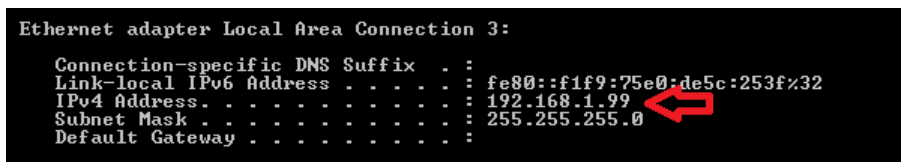

Figure 2-16. Windows 7 Command Window Local Area Connection IPv4 Address
7. A list of all connections will be displayed. Find the IPv4 address and Subnet Mask of DLP LightCrafter's local area connection. See Figure 2-16.